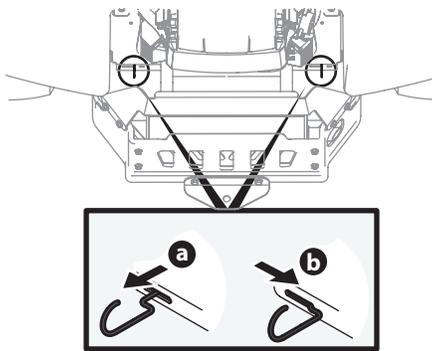

Figure 2-1
- Engage the transmission bypass rods, one on each side of the tractor, to move the tractor manually without starting it. The transmission bypass rods are located on the rear of the tractor, just inside each rear wheel. Engage the bypass rods by pulling each one out (a) and to the right (b) to lock it into place. See Figure 2-1.
- Disengage the bypass rods by reversing Steps a and b after moving the tractor. See Figure 2-1.